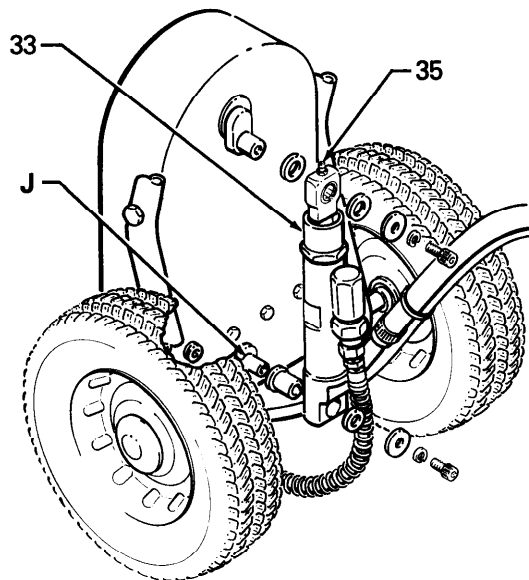

Fig 5
Before each use, squirt one drop of oil onto the lower pivot point (J) of the pump (33). See Fig 5.
Once a month, lubricate the needle bearing (36) in the displacement rod (34); use a grease gun to apply the grease to the grease fitting (35). See Fig 5.